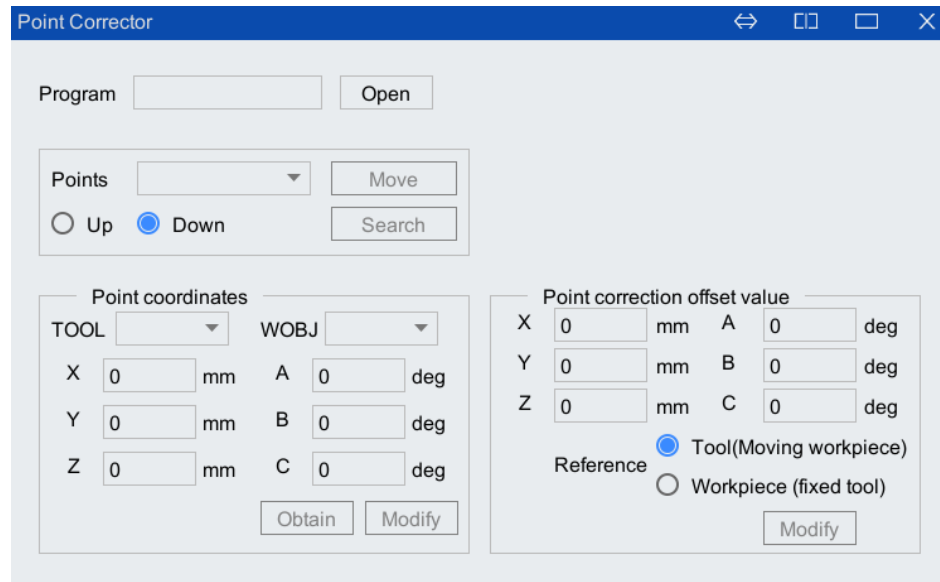

Figure 5-101 "Point Correction" Interface
Step1. On the main interface of the teach pendant, click "Run > Point Corrector" option to enter the "Point Corrector" interface as shown in Figure 5-101.